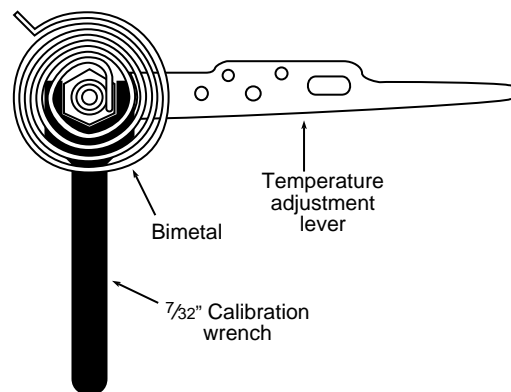

Figure 10. Calibrating thermostat
3. Remove thermostat cover. Slip $\frac{7}{32}$ " wrench onto hex nut beneath bimetal. While holding temperature adjustment lever stationary, turn hex nut clockwise until mercury shifts to the right end of the tube (see fig. 10).
7. Slip $\frac{7}{32}$ " wrench onto hex nut. While holding temperature adjustment lever stationary, turn hex nut counterclockwise until mercury just barely shifts to the left end of the tube (see fig. 10).